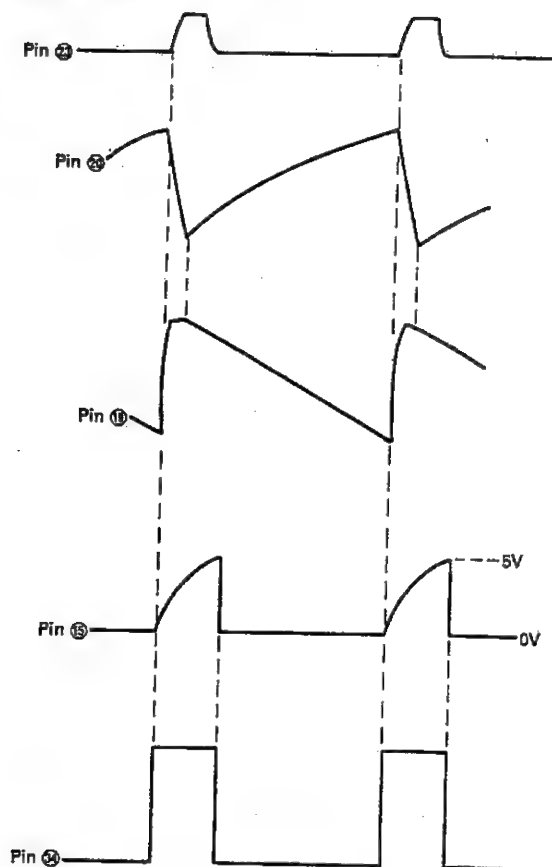

Figure 29-2.
The output available at pin ⑳ is at High level at the time of blanking with the maximum rating of 3mA and 16V. Fig. 29-2 shows the timing relation among the waveforms accompanying the vertical oscillation.